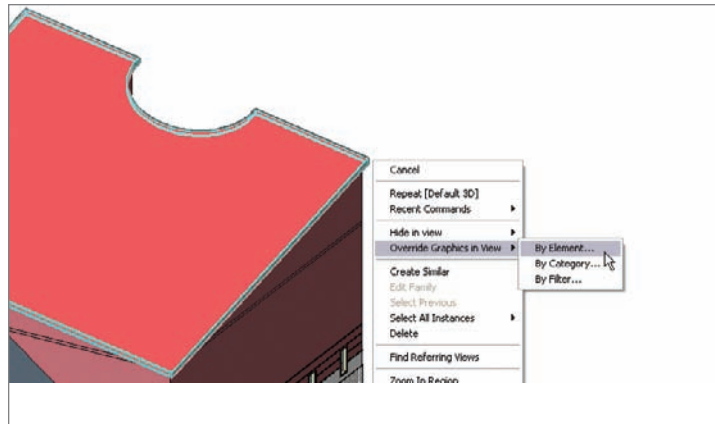

FIGURE 9.10 Selecting the roof, and right-clicking
2. Select the sloped roof that covers the west wing, as shown in Figure 9.10.
4. Select **Override Graphics In View > By Element** (see Figure 9.10).